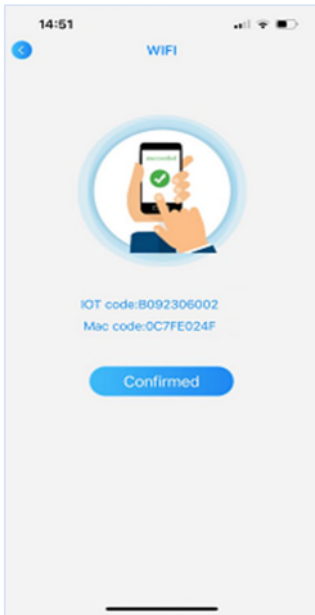
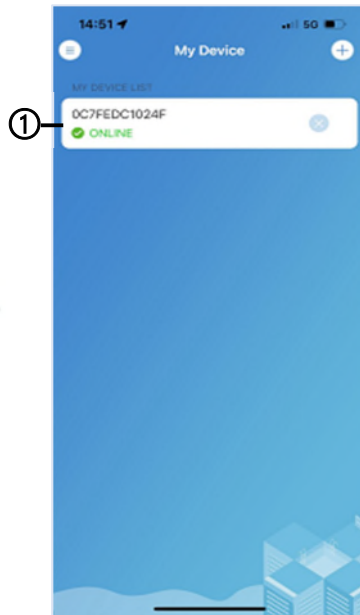

Fig. 38
Fig. 39
15. Select 'Confirmed' once both the IOT and MAC codes are displayed [Fig.38]. The module installation and WiFi pairing is now complete and the device will appear on the My Device screen [Fig.39].